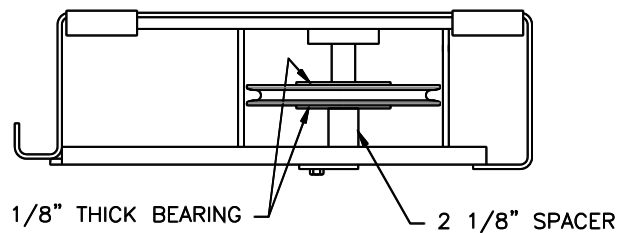

Fig 5 – Runway Single-Stack (typical for front of power runway and front & rear of idler)
- 7) Reinstall the cross beam sheaves (one thin plastic bearing on each side of each sheave) and the idler runway sheaves (2 1/8" long spacer bushing on the bottom then 1/8" thick bearing, sheave, and 1/8" thick bearing, **Fig 5**).